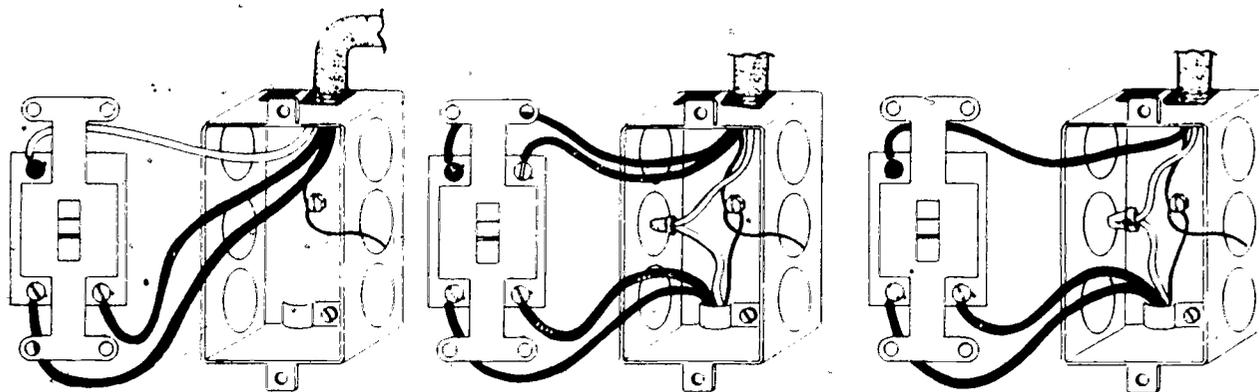

FIGURE 6
N. Install switches (Figure 6)